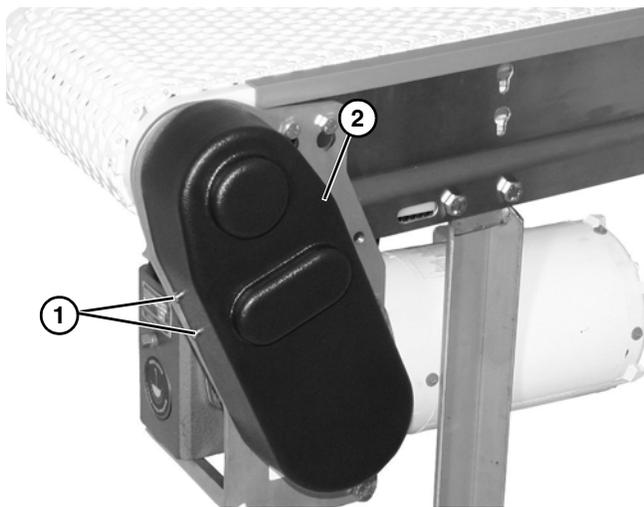

Figure 19
- Remove four bolts (**Figure 19, item 1**) and remove cover (**Figure 19, item 2**).